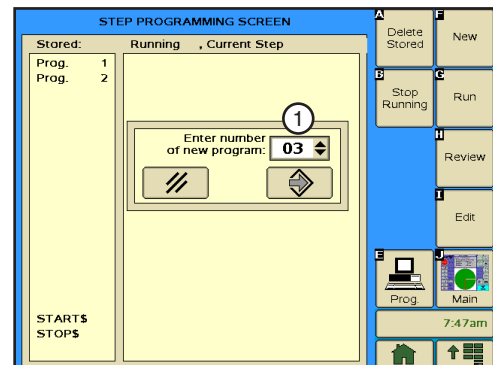

Figure 152-2 1. New Program Number Field
1. Push **Prog.** and **Step Prog.** to view the Step Program screen. Refer to Figure 152-2